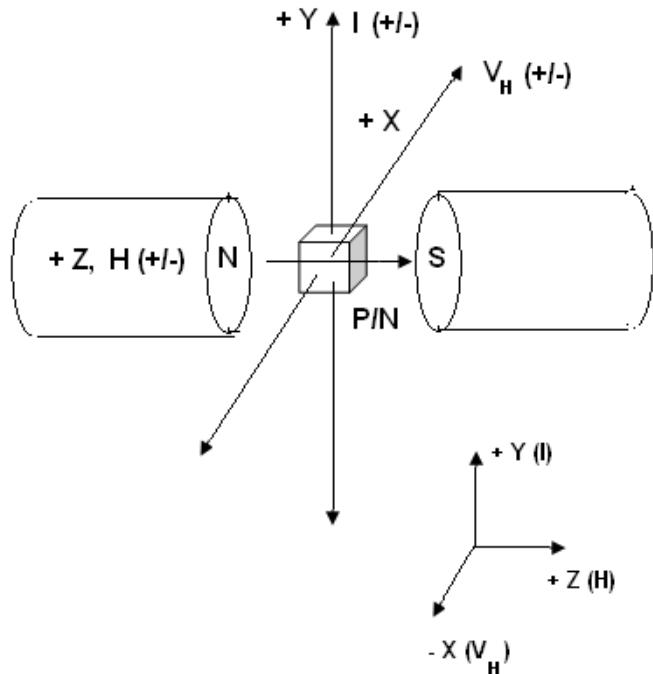

Figure 6.1. Schematic of the Hall effect set up
This force acts in  $X$  direction and thus depending upon the sign of the charge carriers; it pulls/pushes the charge carriers in  $X$  direction. These charge carriers drift till the end of the specimen and accumulate there. Thus the side carries negative or positive charge. The opposite side becomes devoid of charge carriers and thus carries opposite charge. This creates a p.d. named as Hall voltage (Refer Fig6.1) across the  $X$  direction. If the width of the specimen is  $d$  then the corresponding Hall electric field is given by
1. Now choose *N* type crystal. Connect its YY terminals to the constant current power supply. Connect positive terminal of the sample to positive of supply and negative terminal of the sample to negative of supply. The connections should be such that the conventional current will flow in +Y direction. Refer Fig 6.1 for this purpose.